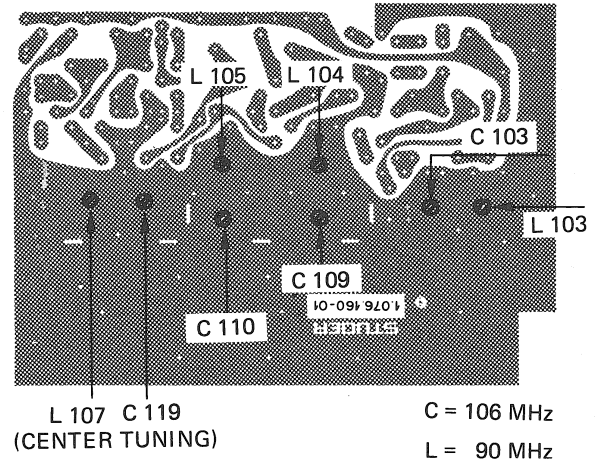

Fig. 4.7.-2
Adjust oscillator slug L107 until a zero indication is obtained on the centre tuning meter (44). This adjustment is carried out from the soldered side of the print (see fig. 4.7.-2)
obtain a maximum reading (adjustment from soldered side, see fig. 4.7.-2)
Adjust oscillator trimmer C119 to obtain zero indication on the centre tuning meter (44). (This adjustment is carried out from the soldered side, see fig. 4.7.-2)
Adjust trimmer capacitors C103, C109 and C110 in the tuned RF input stages to obtain a maximum reading. (Soldered side, see fig. 4.7.-2)